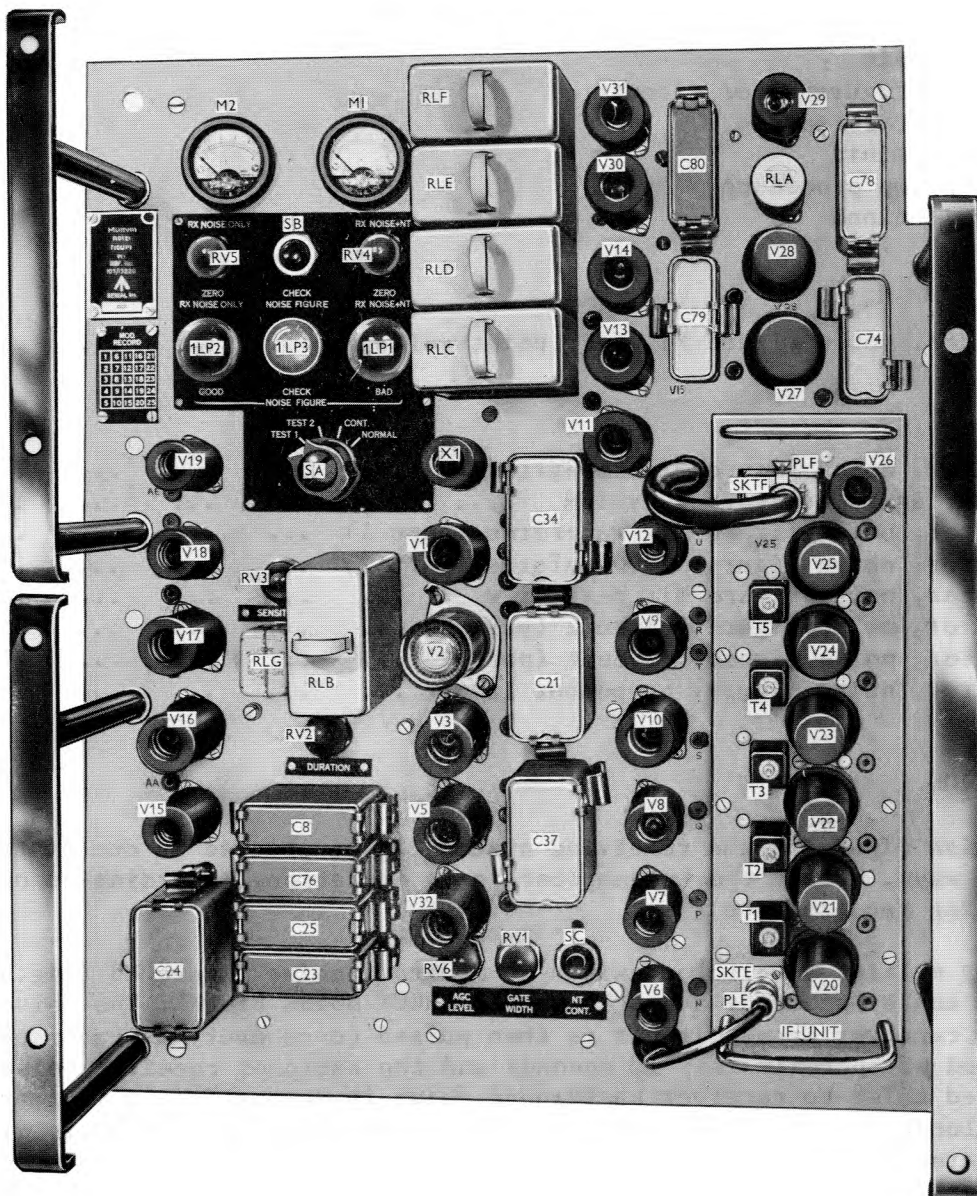

Fig.1. Monitor, noise figure M1: front view
1.1 By setting a selector switch on monitor, noise figure M1 (fig.1) to NORMAL and by pressing a button marked CHECK NOISE FIGURE. The noise source in the receiver input circuit is then pulsed (once every 20 radar pulses) for a period of approximately 10 seconds and the ratio of receiver noise plus injected noise to receiver background noise is automatically indicated on a meter located on the L.H. light and meter assembly. This meter is directly calibrated in noise figure dB's. Normal reception is not interrupted. This check can also be made by pressing the CHECK N.F. button on the transmitter light and meter assembly or by operating a switch on the signal processing console suite.
6 The noise figure monitor (fig.1 and 5) is constructed on a flat panel measuring 15.3/8 in x 18 in x 9 in. This is located at gate position 3B. Its weight is approximately 30 lb. The 13.5 MHz amplifier is a removable sub-unit mounted on the front of the panel. Circuit diagrams of the panel are given in fig.6 and 7. In these diagrams the selector switch SA is shown in the NORMAL position.